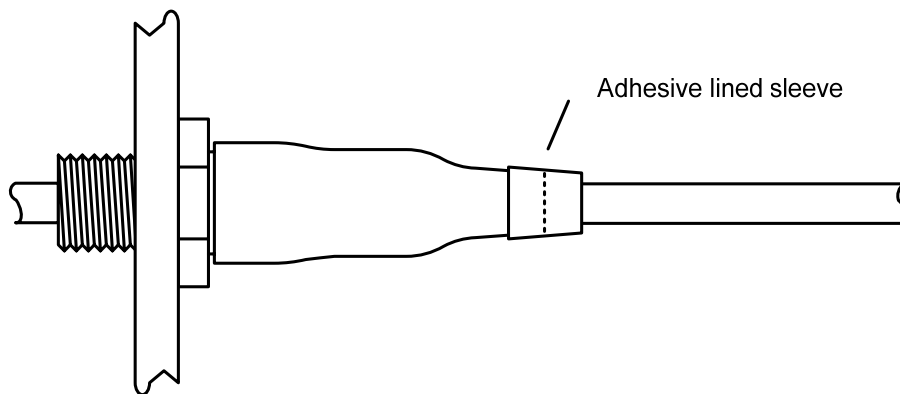

Figure 8
6.9 Position the outer adhesive lined sleeve across the joint between the cable jacket and the TCFS/TCFR boot. See Figure 8. Shrink using a CV1981 heat gun, setting 7-8 and a PR24 or PR26 Reflector. Heat until the hot melt adhesive flows out. SEE NOTE 1.